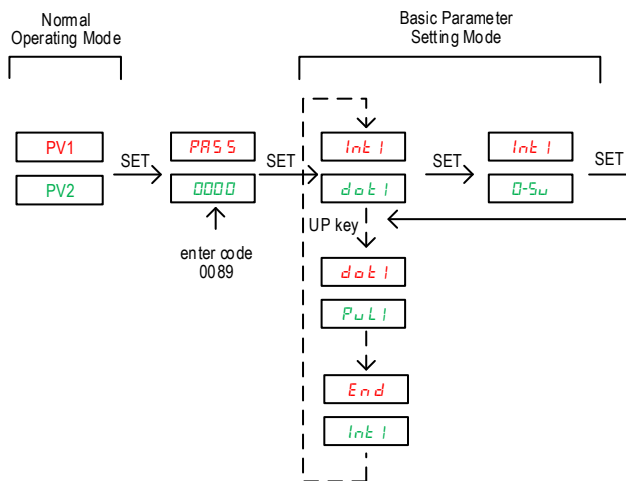

Figure 5. Schematic diagram of how to set Basic Parameters.
D.1.b) The Procedure of Setting Basic Parameters (see Figure 5).